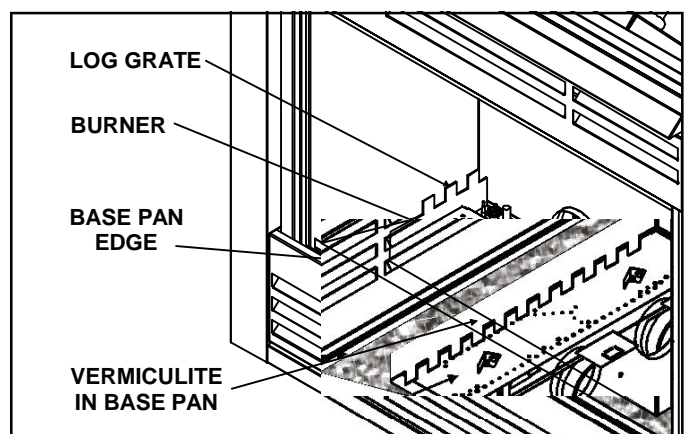

Figure 32. Placement of the Vermiculite
5. Pour the vermiculite onto the basepan surrounding the burner. The vermiculite must be located only outside of the log grate. Maximum thickness one inch high (see Figure 32).